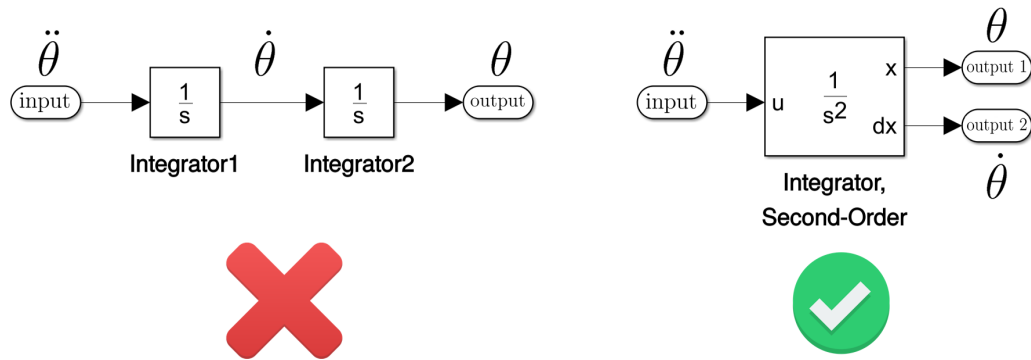

Figure 1: Second-order integration in Simulink
- 8.) If you need to integrate a variable twice, use **Integrator, Second-Order** block, instead of using two integrator blocks in series (look at Fig. 1)